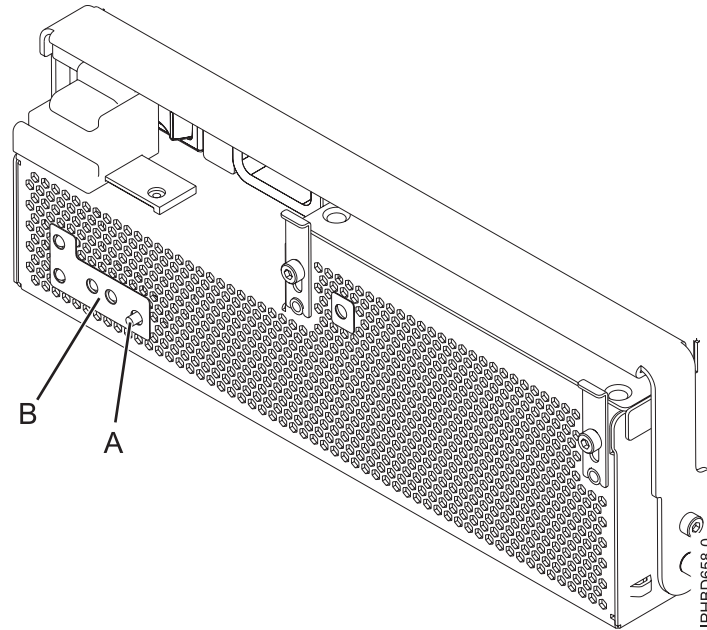

Figure 19. Fan fault LED
Note: If you replaced a power supply fan as part of this procedure, note the state of the fan fault LED (B) shown in Figure 19 on page 20. If the LED is off, indicating that both fans are operating normally, continue to the next step. If not, remove the power supply assembly from the expansion unit and repeat the procedure starting with step 5 on page 16. If, after repeating the procedure, the power supply fan is not operating normally, contact your service provider.